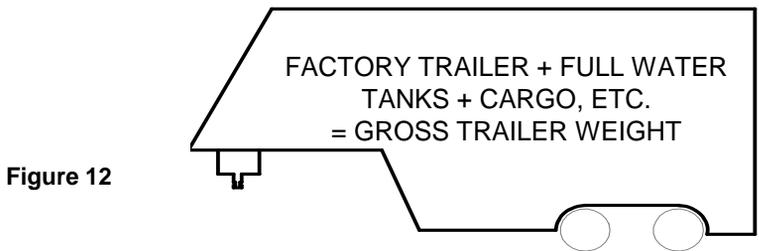

Figure 12
- Towing vehicle must have a manufacturer's rated towing capacity equal to or greater than the gross trailer weight (dry weight of the trailer plus payload of the trailer). (Figure 12)
Gross Trailer Weight (Figure 12): \_\_\_\_\_